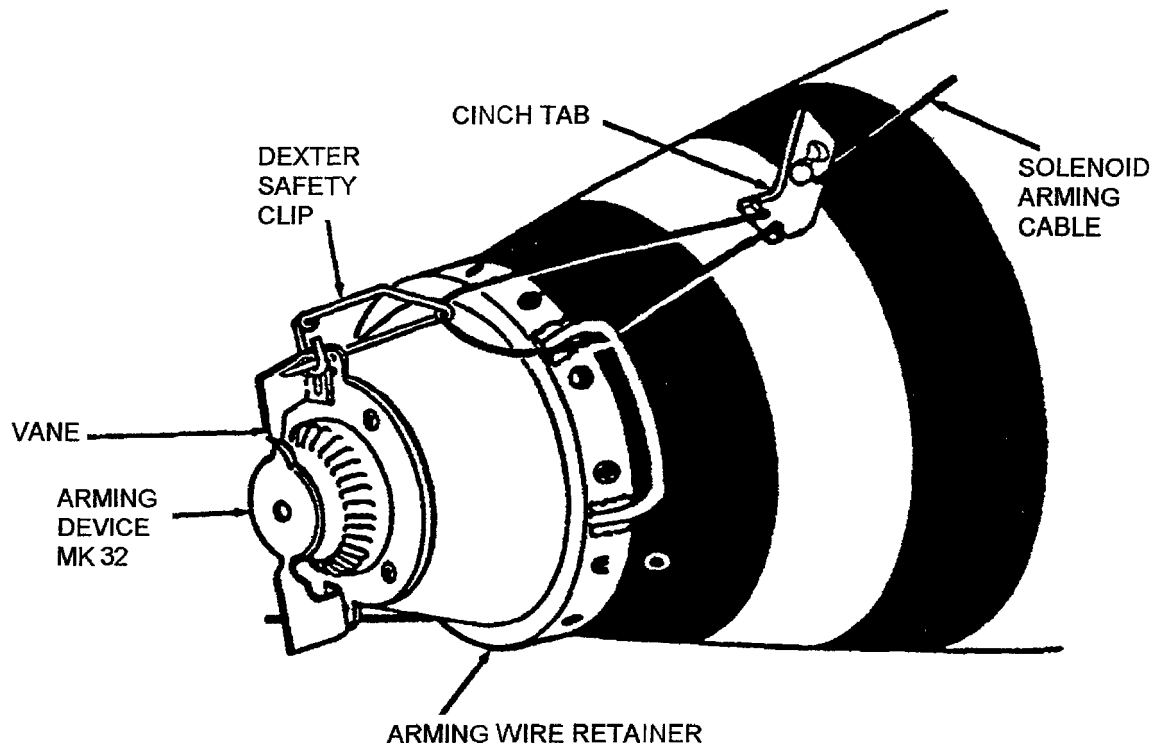

Figure 5-1B. Arming Device and Booster Removal
- a. B-52 Weapons Only: Verify that the safety clip attached to solenoid arming cable is installed in arming device vane (Figure 5-1B).